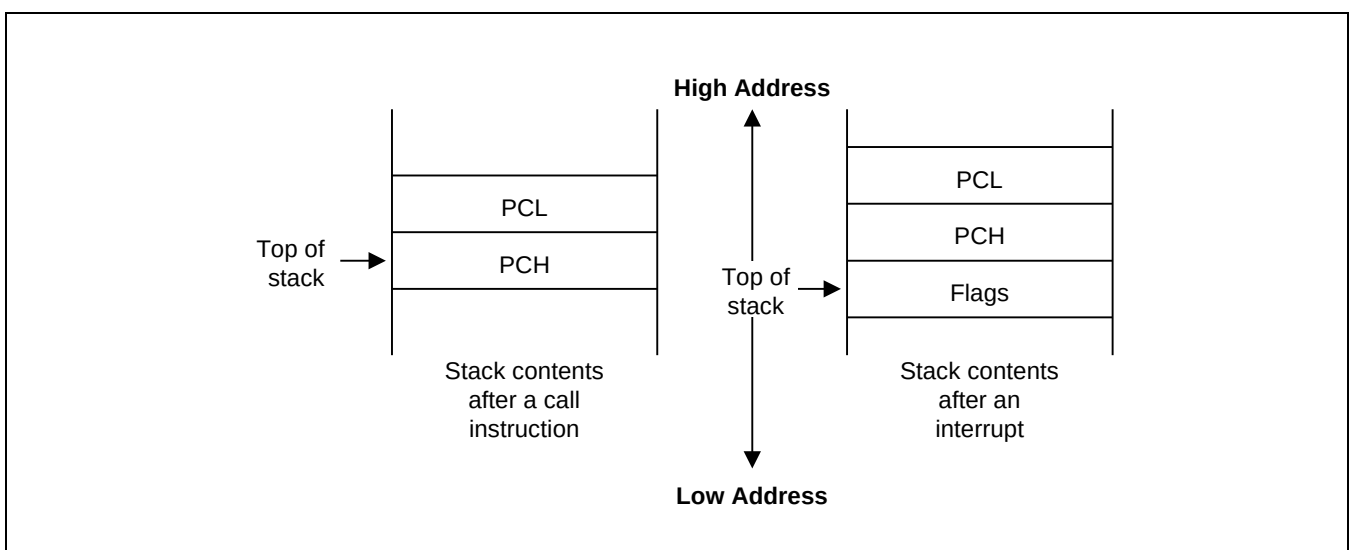

Figure 2-18 Stack Operations
Return addresses for procedure calls, interrupts, and data are stored on the stack. The contents of the PC are saved to stack by a CALL instruction and restored by the RET instruction. When an interrupt occurs, the contents of the PC and the FLAGS register are pushed to the stack. The IRET instruction then pops these values back to their original locations. The stack address value is always decreased by one before a push operation and increased by one after a pop operation. The stack pointer (SP) always points to the stack frame stored on the top of the stack, as shown in Figure 2-18.